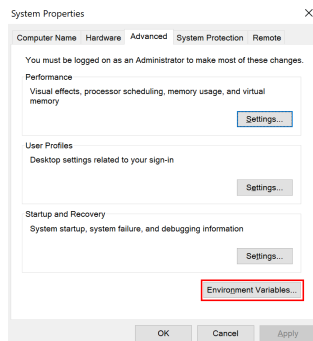

Figure 5: The System variables dialogue.
- Click the "Environment Variables" button near the window's bottom right corner (Fig. 5).